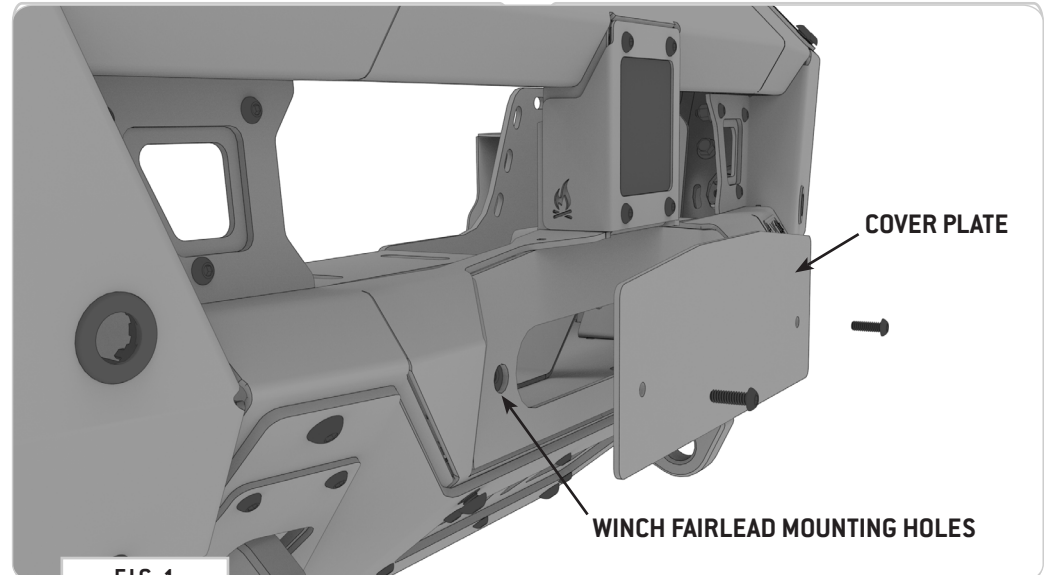
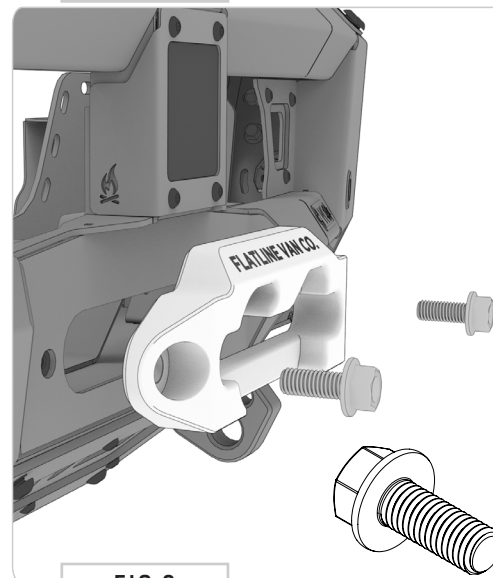

FIG 1
FIG 2
1.1 Install Winch Fairlead: Remove the 1/4-20" Button Head Screws that hold the plate covering the Winch Fairlead Mounting Holes (FIG 1) and install Fairlead using (2) 1/2-13 x 1.25 Flanged Hex Head Bolts, Flat Washers and Nylon Locknuts as shown in FIG 2+3.